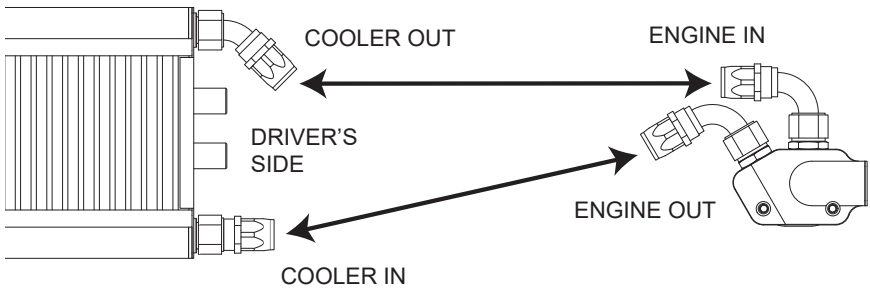

Figure 4 - Oil Line Connection Diagram
the oil cooler adapter side. The lines will be connected as shown in Figure 4.
1. Connect the oil lines to the oil cooler as shown in Figure 4. **DO NOT** overtighten.